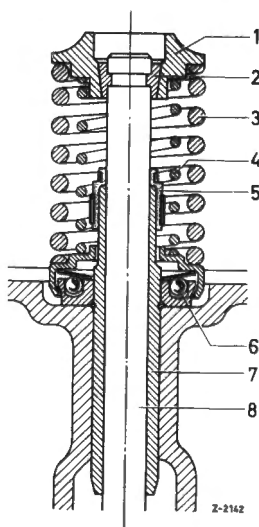

Fig. 05-2/5
- The sealing-ring retainer (3) on the inlet valve (8) must slide over the valve guide smoothly but without any clearance (Fig. 05-2/1).
- When assembling the exhaust valve care should be taken to ensure that the valve ring retainer (3) does not foul the inner valve spring (10) (Fig. 05-2/2).